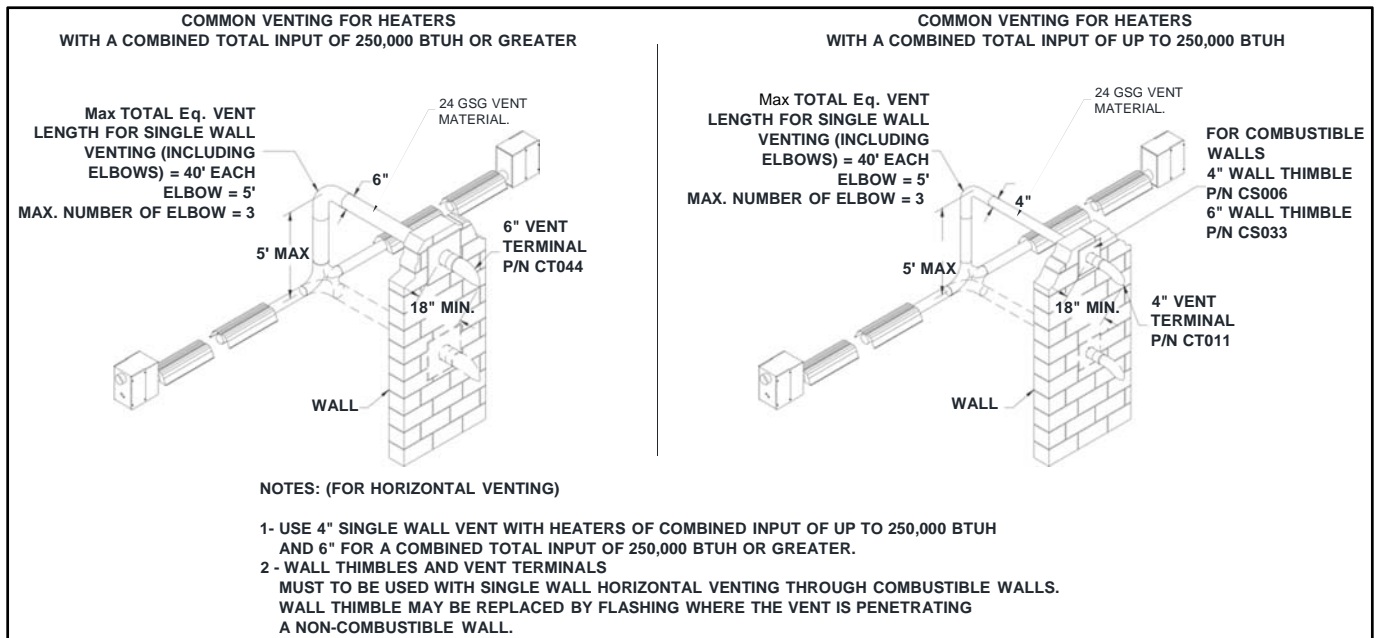

Figure 29: Common Horizontal Venting
- Refer to Figure 29 for detailed Common Horizontal Venting guidelines.